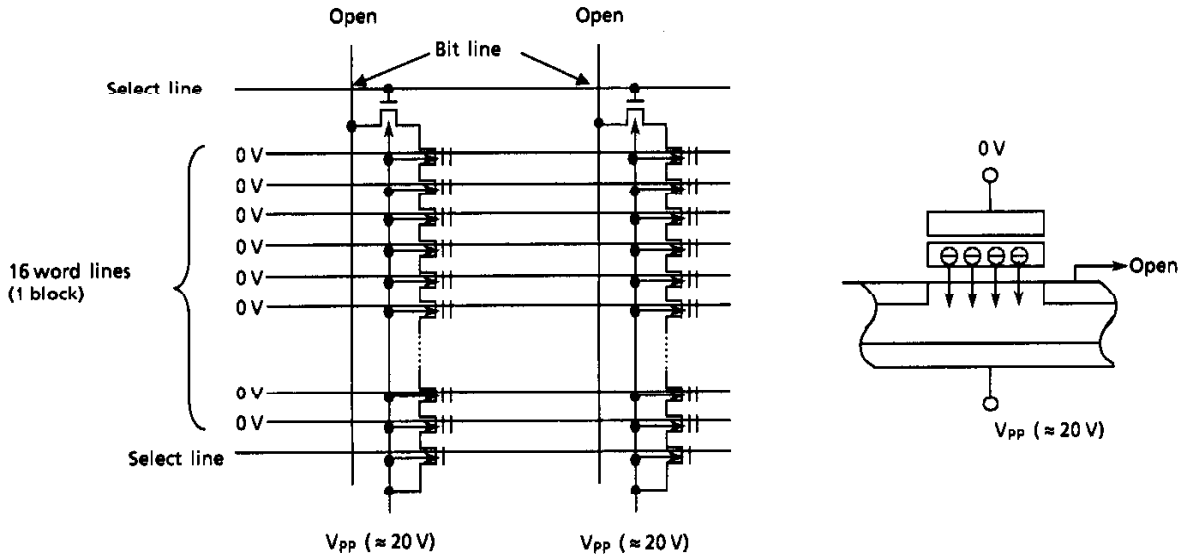

Figure 18. Erase Operation Device Physics
- (1) A high level is applied to Select line 1 and a low level to Select line 2, so that the device is connected to the Bit line and disconnected from the ground line.
- (2) V_{pp} ($\approx 20\text{ V}$) is applied to the selected word line and an inhibit voltage of V_{PI} ($\approx 10\text{ V}$) is applied to the unselected word lines.
- (3) 0 V is applied to the bit line tied to cell transistor TR1 and the inhibit voltage $VDPI$ ($\approx 10\text{ V}$) is applied to the bit line tied to TR2.
- (4) V_{pp} is applied between the control gate and the channel in TR1, as shown in Figure 18, which causes electrons to be injected from the channel to the floating gate by a tunneling mechanism.
- (5) The injected electrons are captured in the floating gate which is surrounded by an oxide layer and will remain there, even after power is cut off, until they are removed by an Erase operation.
- (6) Although 20 V is applied to the control gate of TR2, the voltage difference between the control gate and the channel is only 10 V because the voltage of the channel is 10 V . Therefore, tunneling does not take place (i.e. electrons are not injected into the floating gate).
- (7) Tunneling does not take place in the unselected pages because of the 10 V (V_{PI}) applied to the unselected word lines which makes the voltage difference between the control gate and channel only 10 V .
Figure 18 shows the Erase mechanism at the NAND memory cell level . The Erase operation is used to turn all the 0 (programmed) cells in a block back to 1 . The captured electrons are pulled out from the floating gate to the substrate by a tunneling mechanism. 0 V is applied to the control gate and V_{pp} (≈ 20 V) is applied to the substrate so that a 20-V potential is created, causing the electrons in the floating gate to be pulled out by the tunneling mechanism.